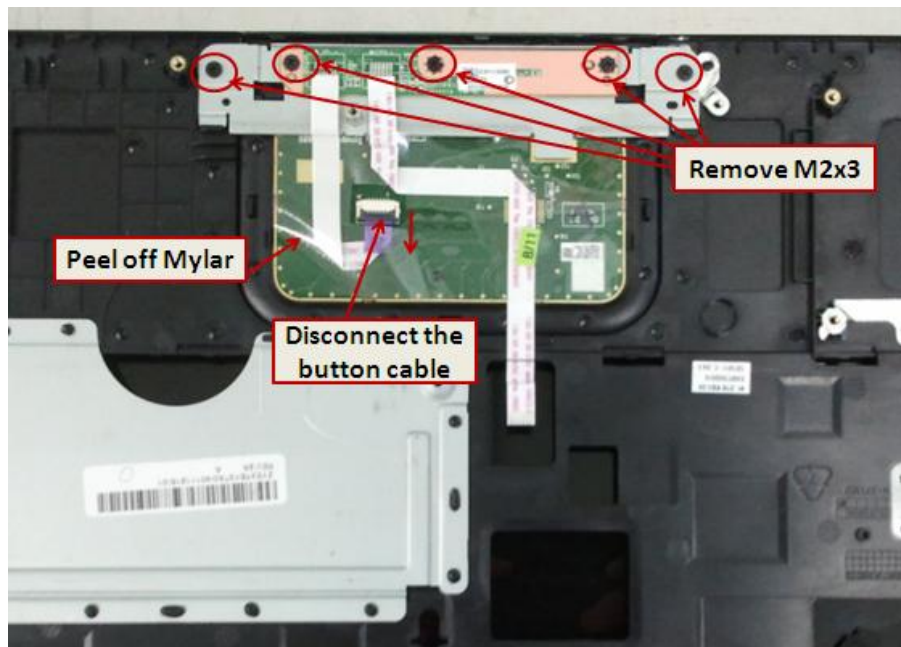

Figure 4-10-1 Remove the touch FFC and screws
The following describes the procedure for removing the touch pad (See Figure 4-10-1 to 4-10-2).
1. Peel off the protect Mylar and disconnect the button FFC from the connector on the touch pad. (Figure 4-10-1)